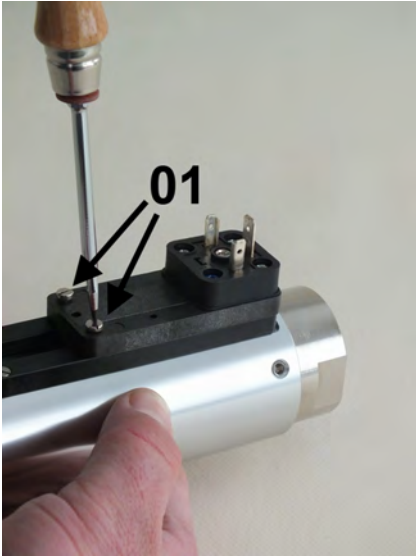

Fig. 56: Loosen set screws
- 3.** Using a flat-bladed screwdriver (Fig. 56/1) loosen the set screws of the switch contact until it can move freely.
11. ▶ Tighten the set screws (Fig. 56/1) observing the proper tightening torque of the screws ( Chapter 11.1 "Tightening torque" on page 83).